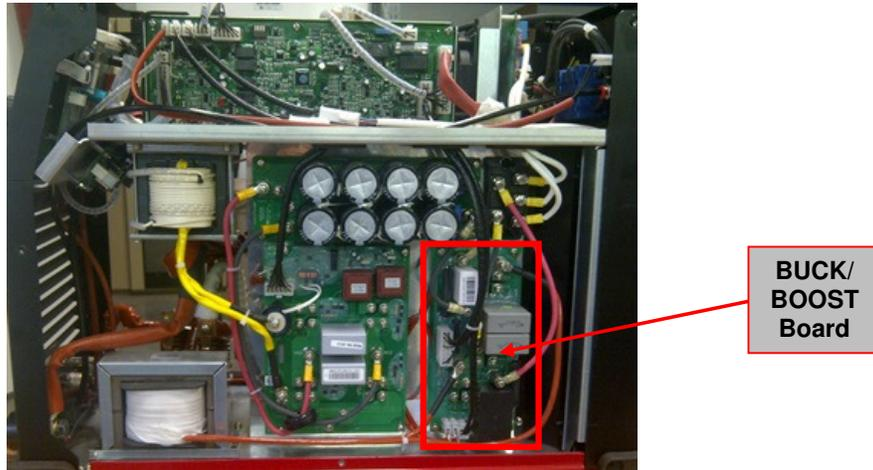

Figure 4 – W05X0982 BUCK/BOOST Board location
3. Locate the Buck/Boost board on the right side of the machine. See **Figure 4**.